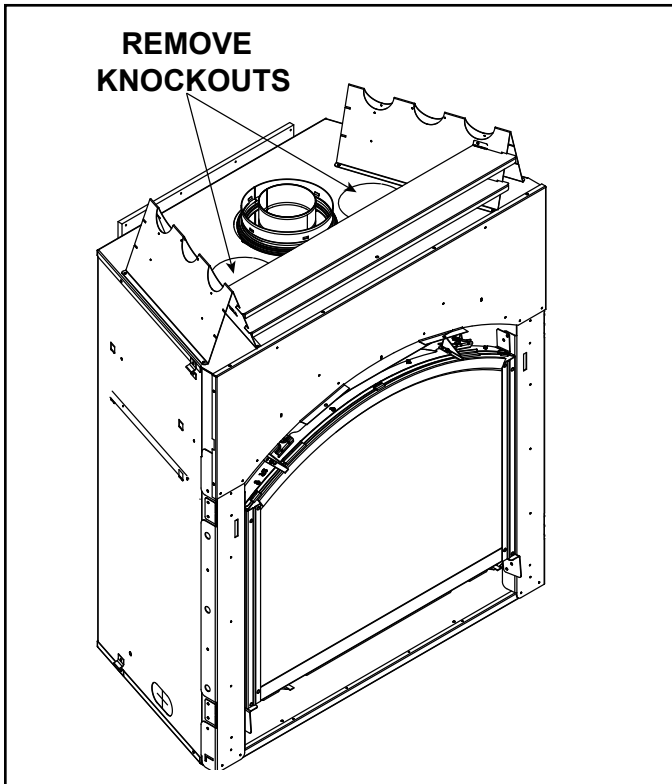

Figure 7 Remove Knockouts
1. Remove both top knockouts from outer wrap as shown in Figure 7. Discard knockout piece and ensure no other material or debris is blocking the hole created by removing the knockout.